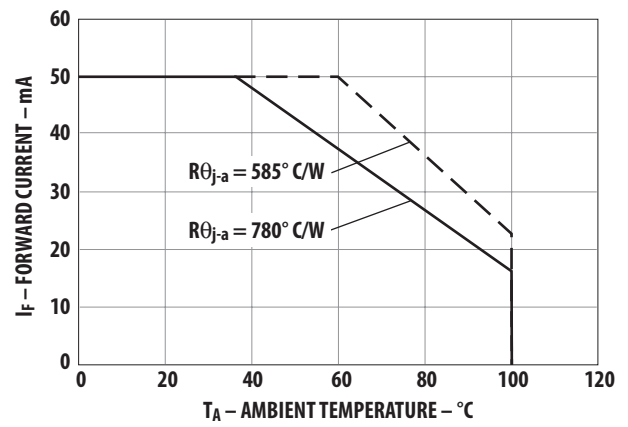

Figure 4. Amber, Red maximum forward current vs. ambient temperature.
1. Derate linearly as shown in Figures 4.